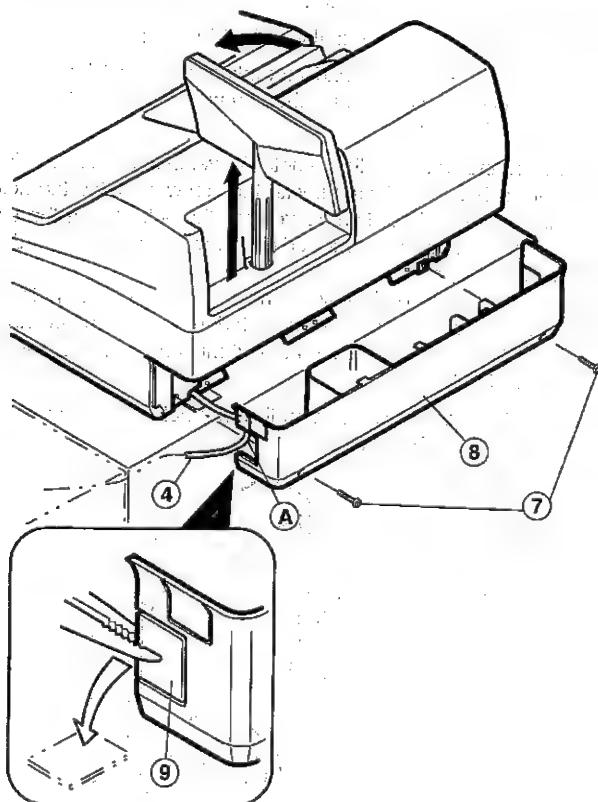

Fig. 4
- 9) Remove two rear cover holding screws ⑦ and remove the rear cover ⑧ (Fig. 4).
- 10) Break open the knockout ⑨ of the rear cover ⑧ using the tool (Fig. 4).
- 11) Route the option drawer cable ④ through the hole ⑩ and fasten the rear cover (Fig. 4).